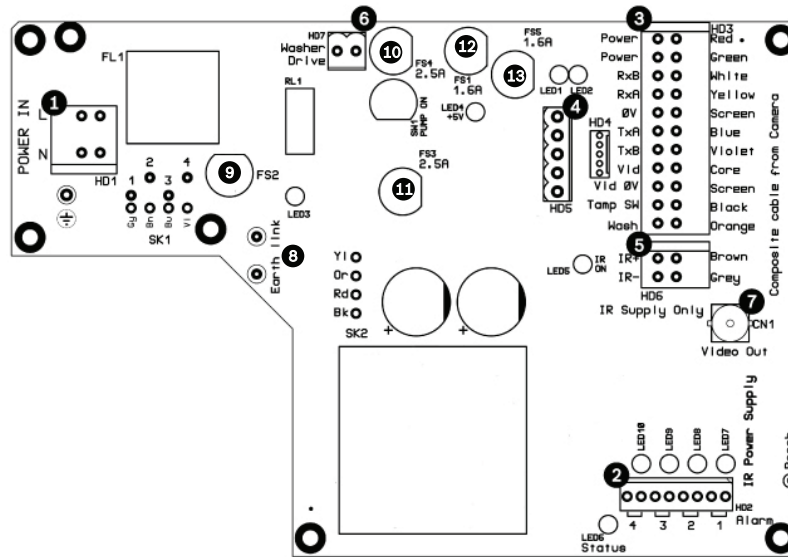

Figure 3.4 Layout of PCB in enclosure of PSU for MIC IR cameras
MIC IR power supplies have five (5) 20 mm fuses (see *Figure 3.4*). The following table shows the fuse values that should be fitted to provide proper protection for the power supplies.